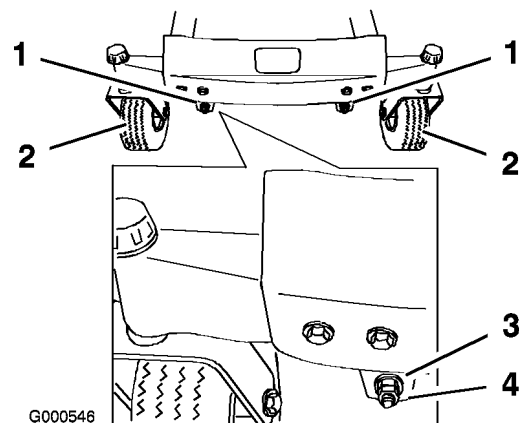
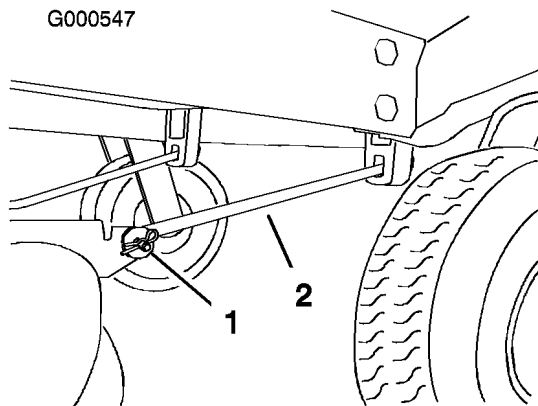

Figure 46
Figure 47
11. To adjust the front-to-rear blade slope, remove the locknuts and then rotate the adjustment nuts in the front of the mower (Figure 46).
13. After adjusting both adjustment nuts evenly, check the front-to-rear slope again. Continue adjusting the nuts until the front blade tip is 1/16-5/16 inch (1.6-7.9 mm) lower than the rear blade tip (Figure 46).
Note: After adjusting the adjustment nuts, make sure there is no slack in either support rod (Figure 47). Tighten either one to remove the slack (Figure 46).
4. Remove the hairpin cotter and clevis pin from the front support rod on each side of the mower (Figure 47).
7. Attach the front support rods to the machine with the clevis pins and hairpin cottes (Figure 47).